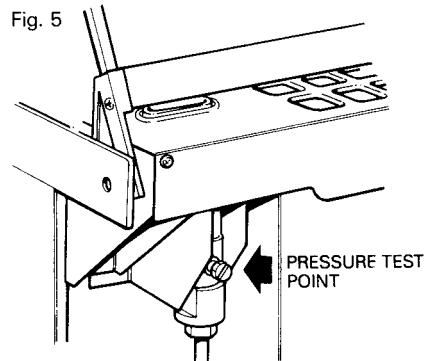

Fig. 5
3. Unscrew the pressure test sealing screw (see Fig. 5) and fit pressure gauge.